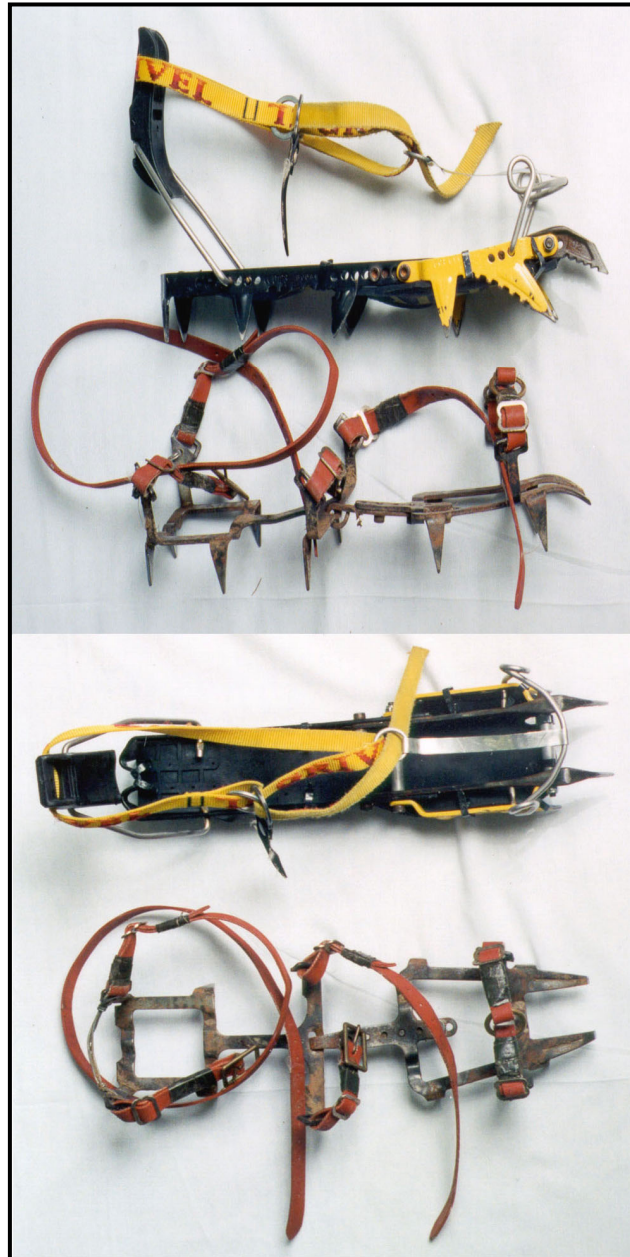

Figure 3-25. Crampons.
c. **Crampons.** Crampons are used when the footing becomes treacherous. They have multiple spikes on the bottom and spikes protruding from the front (Figure 3-25). Two types of crampons are available: flexible and rigid. Regardless of the type of crampon chosen, fit is the most important factor associated with crampon wear. The crampon should fit snugly on the boot with a minimum of 1 inch of front point protruding. Straps should fit snugly around the foot and any long, loose ends should be trimmed. Both flexible and rigid crampons come in pairs, and any tools needed for adjustment will be provided by the manufacturer.
(1) The hinged or flexible crampon is best used when no technical ice climbing will be done. It is designed to be used with soft, flexible boots, but can be attached to plastic